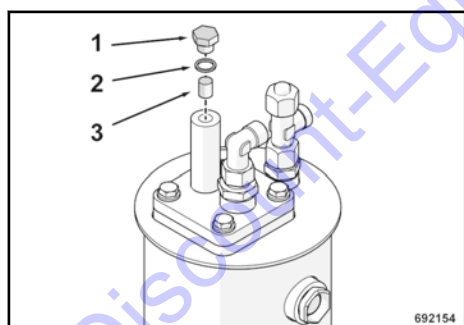

Fig. 69
Unscrew the plug (1) ↪ Fig. 69.